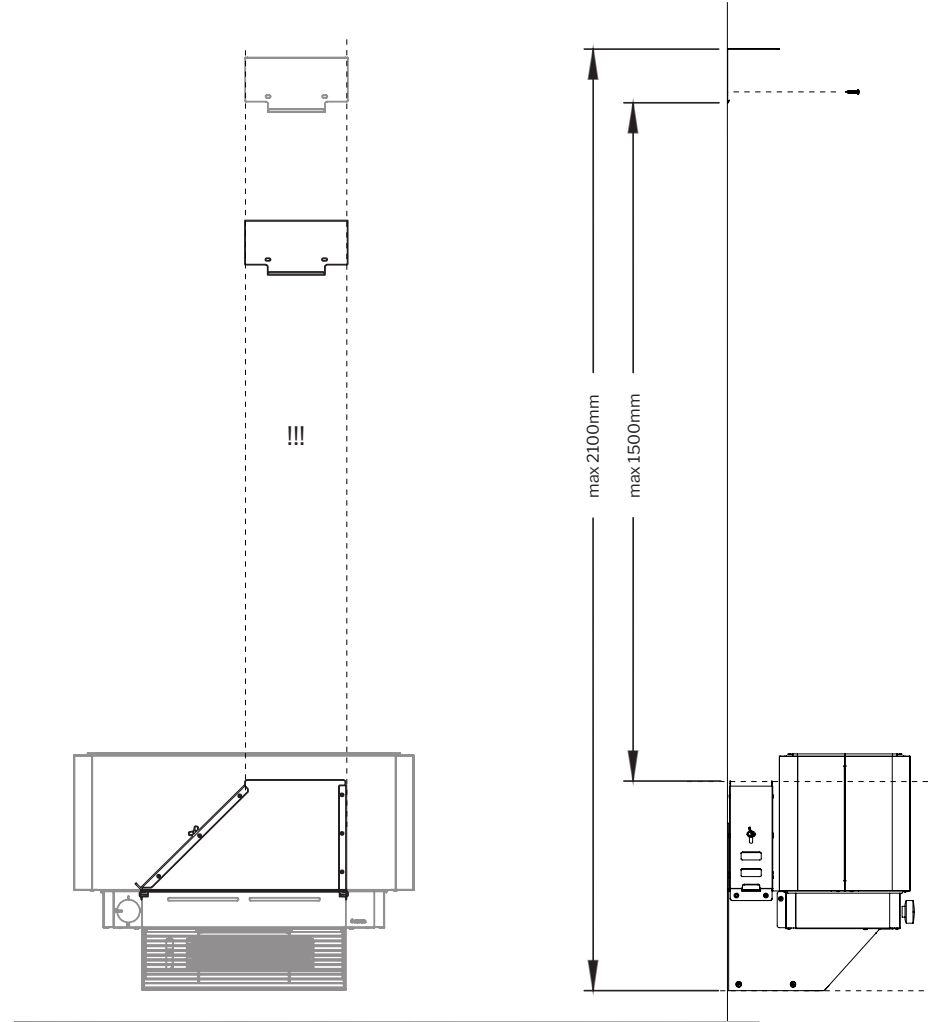

Figure 3.7: Fitting and fastening the flue cap
- 3.2.6.** Attach the flue cap under the sauna room ceiling using two 5 mm bolts (**Figure 3.7**). NB! Align the flue cap with the flue opening in the flue socket!